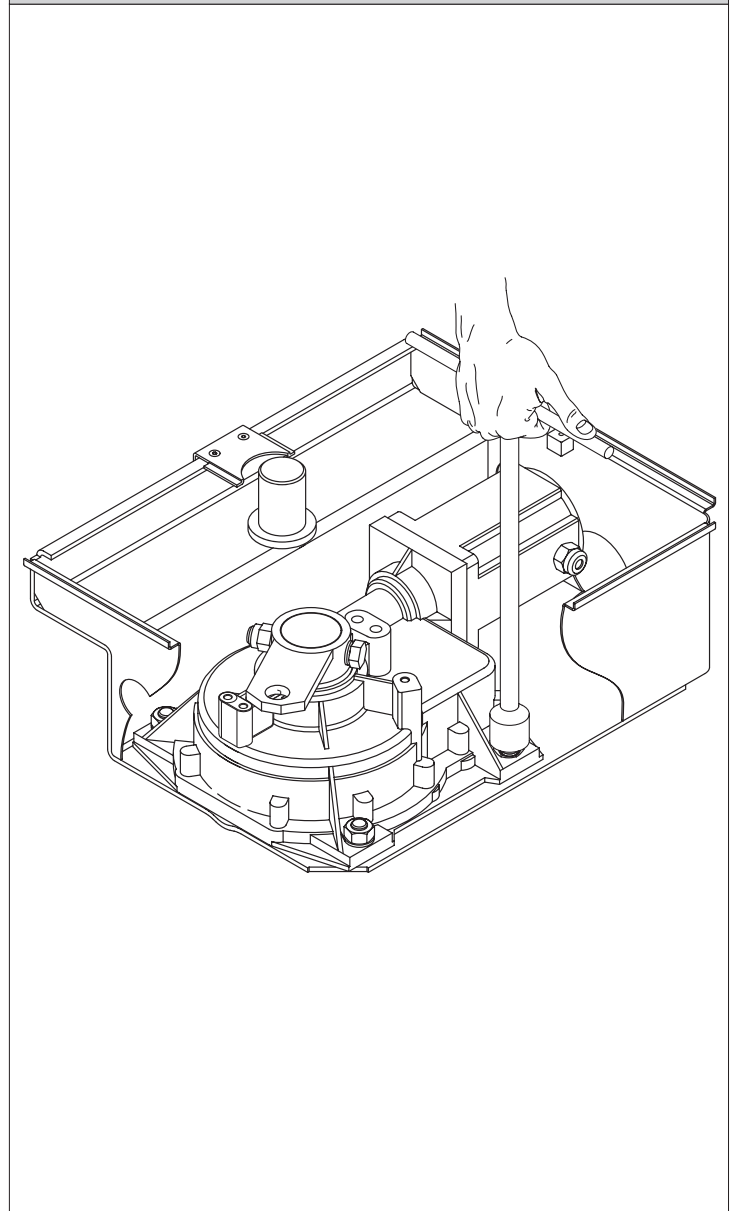

Fig. 8
- The "FA" stop plates of the leaves are installed (fig.8).